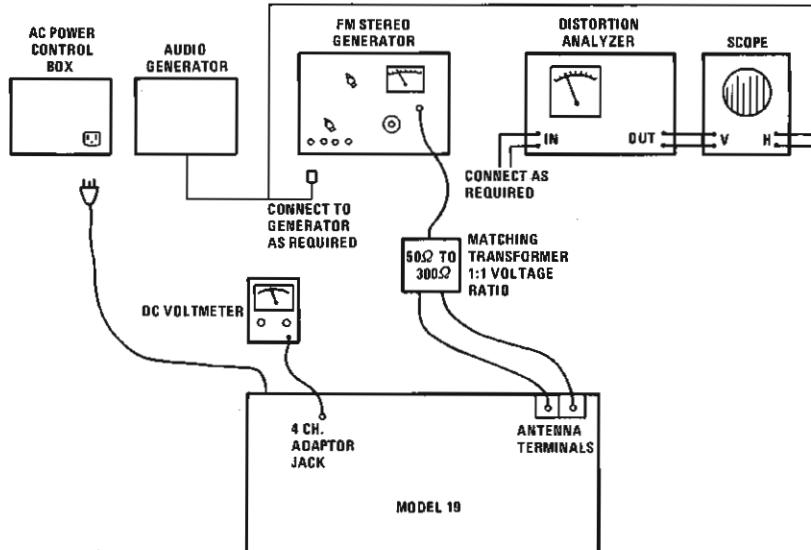

**FIGURE 4 – RIAA EQUALIZATION CURVE**
5. Sweep oscillator from 20 Hz to 20 KHz (changing analyzer voltage ranges as necessary) and check output to see that it follows the curve and chart in figure 4 within  $\pm 0.5$  dB.